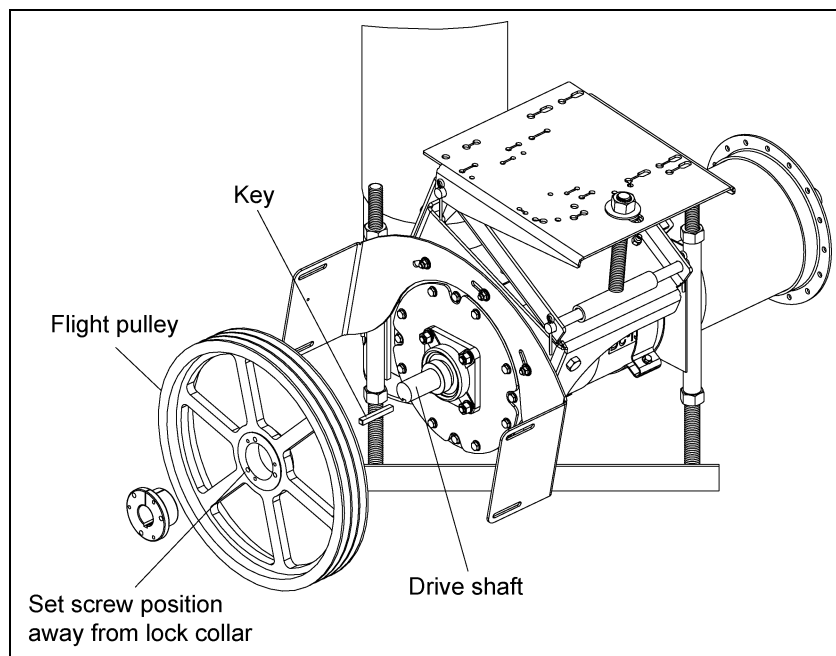

Figure 4T
- Once the pulley is appropriately positioned, tighten the set screw with a hex head wrench to secure it to the drive shaft. (See Figure 4T.)